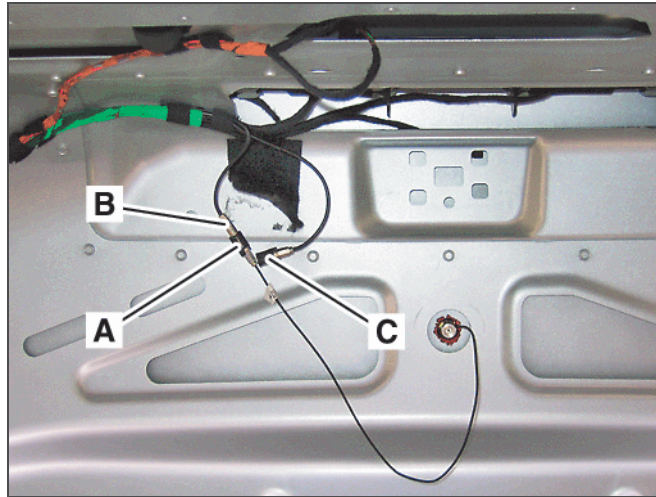

Figure 5
8. Connect the SDARS antenna lead (A, Figure 5) to the preinstalled antenna male lead (B, Figure 5).
Note: There is no use for the preinstalled antenna female lead (C, Figure 5) with the 2nd Generation antenna.